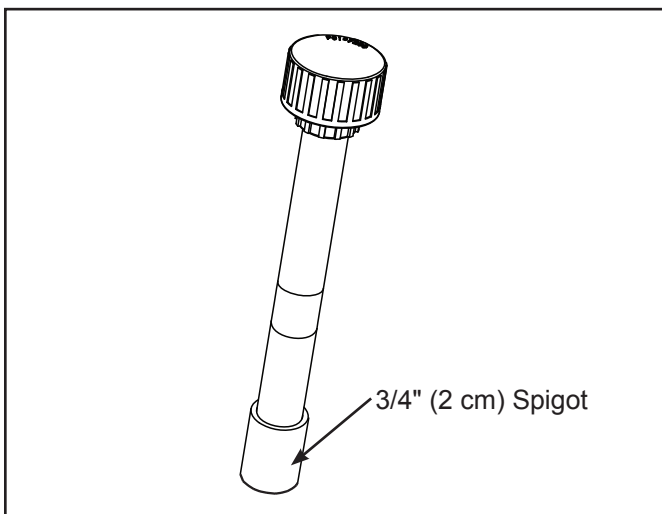

Figure 1. Flexible Hose 3/4" (2 cm) Pipe Spigot
- Using a standard pipe coupler or reducer, glue the existing water inlet tubing of the canister to the 3/4" (2 cm) pipe spigot that is attached to enclosed flexible hose assembly. See Figure 1.